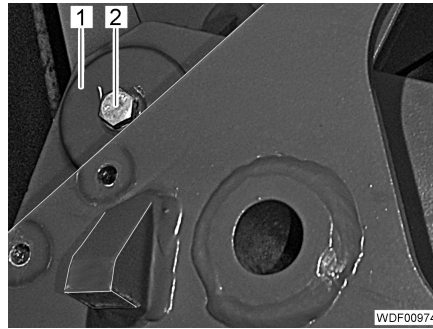

Fig. 210 Pin cover
- Unscrew the screw (Fig. 210,2).
- Remove the washer (Fig. 210,1).